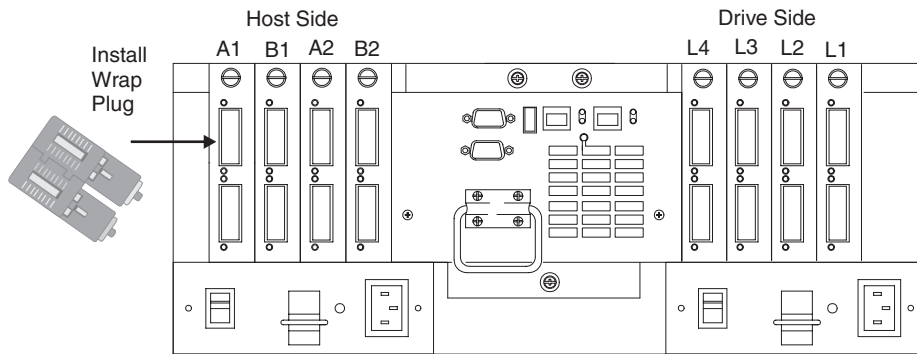

Figure 131. Install wrap plug to GBIC in mini-hub on controller A
- b. For a Type 3552 or 1742 controller, install a wrap plug to the GBIC in the mini-hub on controller A. See Figure 131 on page 316.